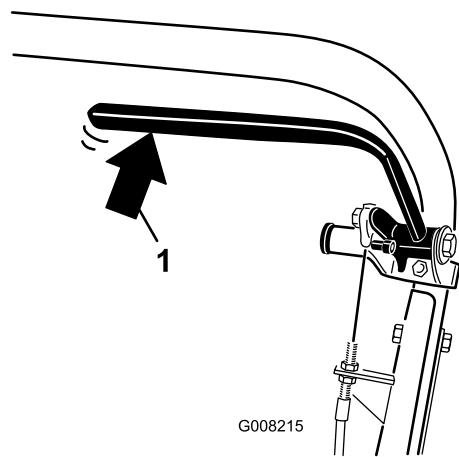

Figure 35
2. Using a spring scale, press rearward on the service brake lever (Figure 35). The parking brake should release when a force of 13.5 to 18 kg (30 to 40 lbs) is attained. If the parking brake releases before 13.5 to 18 kg (30 to 40 lbs) of force is attained, an adjustment to the brake cable is required. Proceed to step 3.